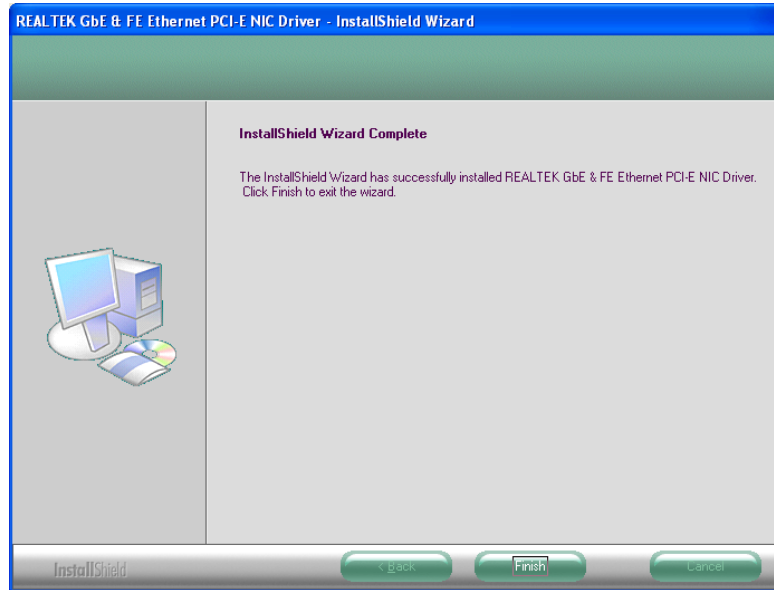

Figure 6-20: LAN Driver Installation Complete
Step 9: When the driver installation is complete, the screen in Figure 6-20 appears.